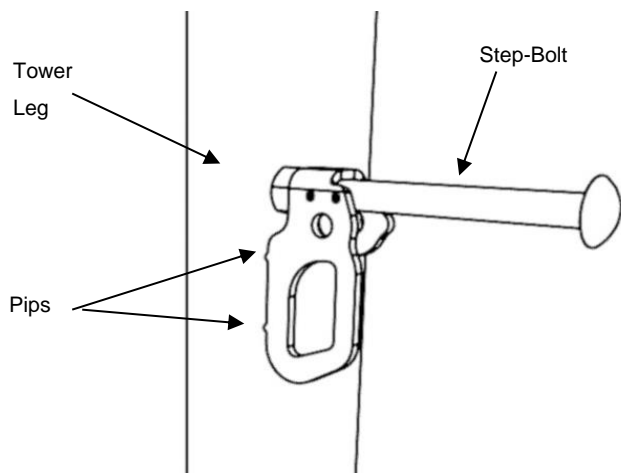

Fig 1
- Place the **S-K2™** over the step-bolt in the correct vertical orientation with the lower edge angled down towards the tower body and the pips against the tower leg as shown on Fig1. The **S-K2™** must be vertical as shown.